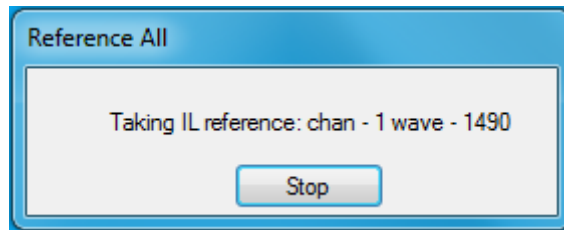

Figure 7.5: The auto-updating window for referencing all channels.
- Upon clicking the IL Reference button with Take Reference for all Channels at Once selected, the window in Fig. 7.5 should pop up.